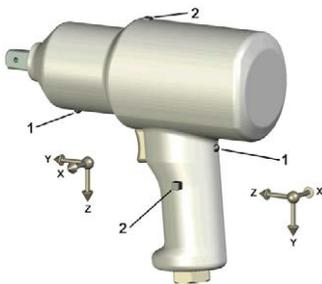
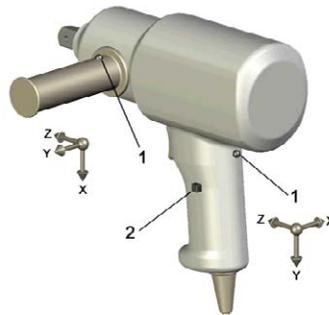

Figure 2 : without Support Handle
Figure 3: with Support Handle
Oil-pulse tools with a mass less than 2kg are normally operated using only one hand and therefore only the hand position on the trigger handle is measured. Tools of a mass of 2kg or more are normally operated using both hands and measurements are made in two positions. For tools without a side handle, the second hand position is on the front casing or – if that is not possible – on the motor housing (see figure 2). For tools with a side handle, vibrations are measured in three directions both on the trigger and the support handle (see figure 3). On the tools intended to be used with two hands, two positions are measured and the position with the higher value is declared.
Three different operators carry out three series of five consecutive measurements on each model, using three different units. Vibration measurement are made in two positions when the tool has mass of 2 kg or over (see figure 2) or when the tool has a support handle (see figure 3). For each hand position, we combine the result from the three operators into one value ( $\bar{a}_h$ ), using the arithmetic mean of the three  $\bar{a}_{hv}$  values.  $\bar{a}_h$  values for each hand position are calculated as the arithmetic mean of the  $\bar{a}_h$  values for the different tools on that hand position. The declared value,  $a_{hd}$ , is the highest of the  $\bar{a}_h$  values reported for the two hand positions. The uncertainty  $K$  value is estimated by the equation (2).